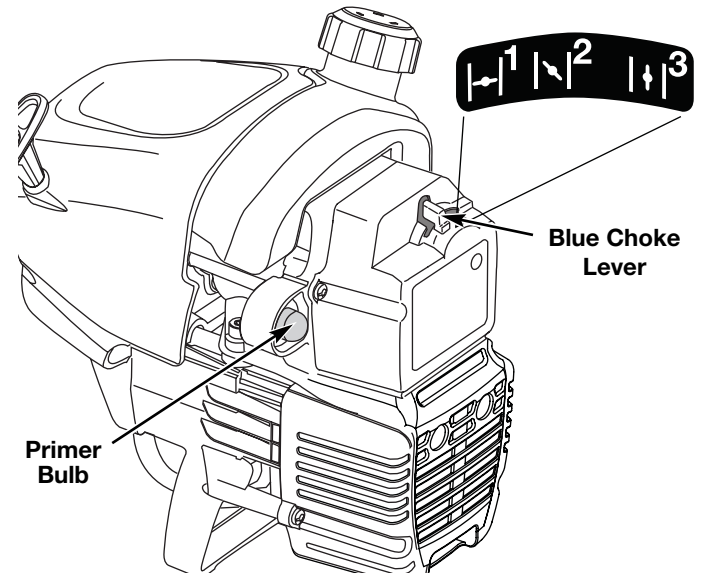

Fig. 7
2. Fully press and release the primer bulb 10 times, slowly. Some amount of fuel should be visible in the primer bulb and fuel lines (Fig. 7). If you can't see fuel in the bulb, press and release the bulb as many times as it takes before you can see fuel in it.
3. Place the blue choke lever in **Position 1** (Fig. 7).
5. Place the blue choke lever in **Position 2** (Fig. 7).
8. Once the engine is warmed up, place the blue choke lever in **Position 3** (Fig. 7). The unit is ready for use.
IF...the engine hesitates, return choke lever to **Position 2** (Fig. 7) and continue warm up.